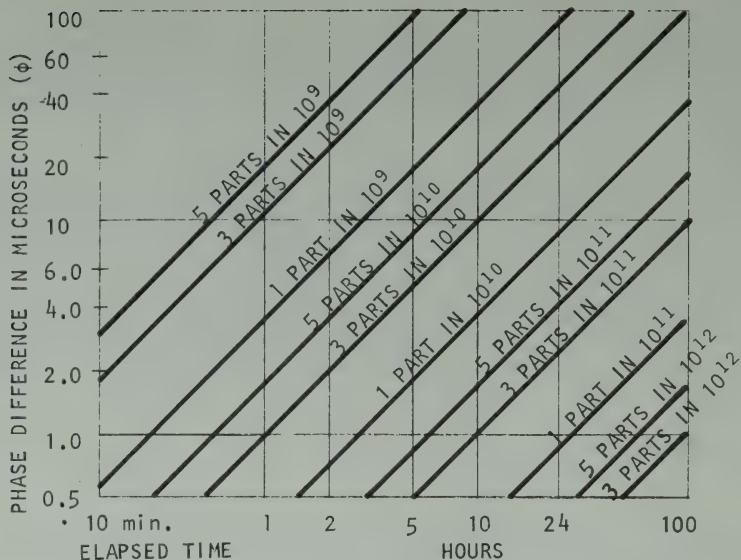

FIGURE 5 PHASE MEASUREMENT RESOLUTION
3-24 The slope of the trace plotted by the Comparator's strip chart recorder is, at a given instant, frequency offset between the local standard and the received signal $d\phi/dt$. The frequency difference can either be determined by the use of the chart in Figure 5 or by simple mathematical calculations.
3-29 Figure 5 shows $E = \emptyset/t$ on a logarithmic scale for \emptyset between .5 μs and 100 μs and t between 10 minutes and 100 hours. The fractional frequency difference (E) between the local standard and the received carrier of WWVB is the intersection of \emptyset and t . The dotted line shows the same answer as in the example above.